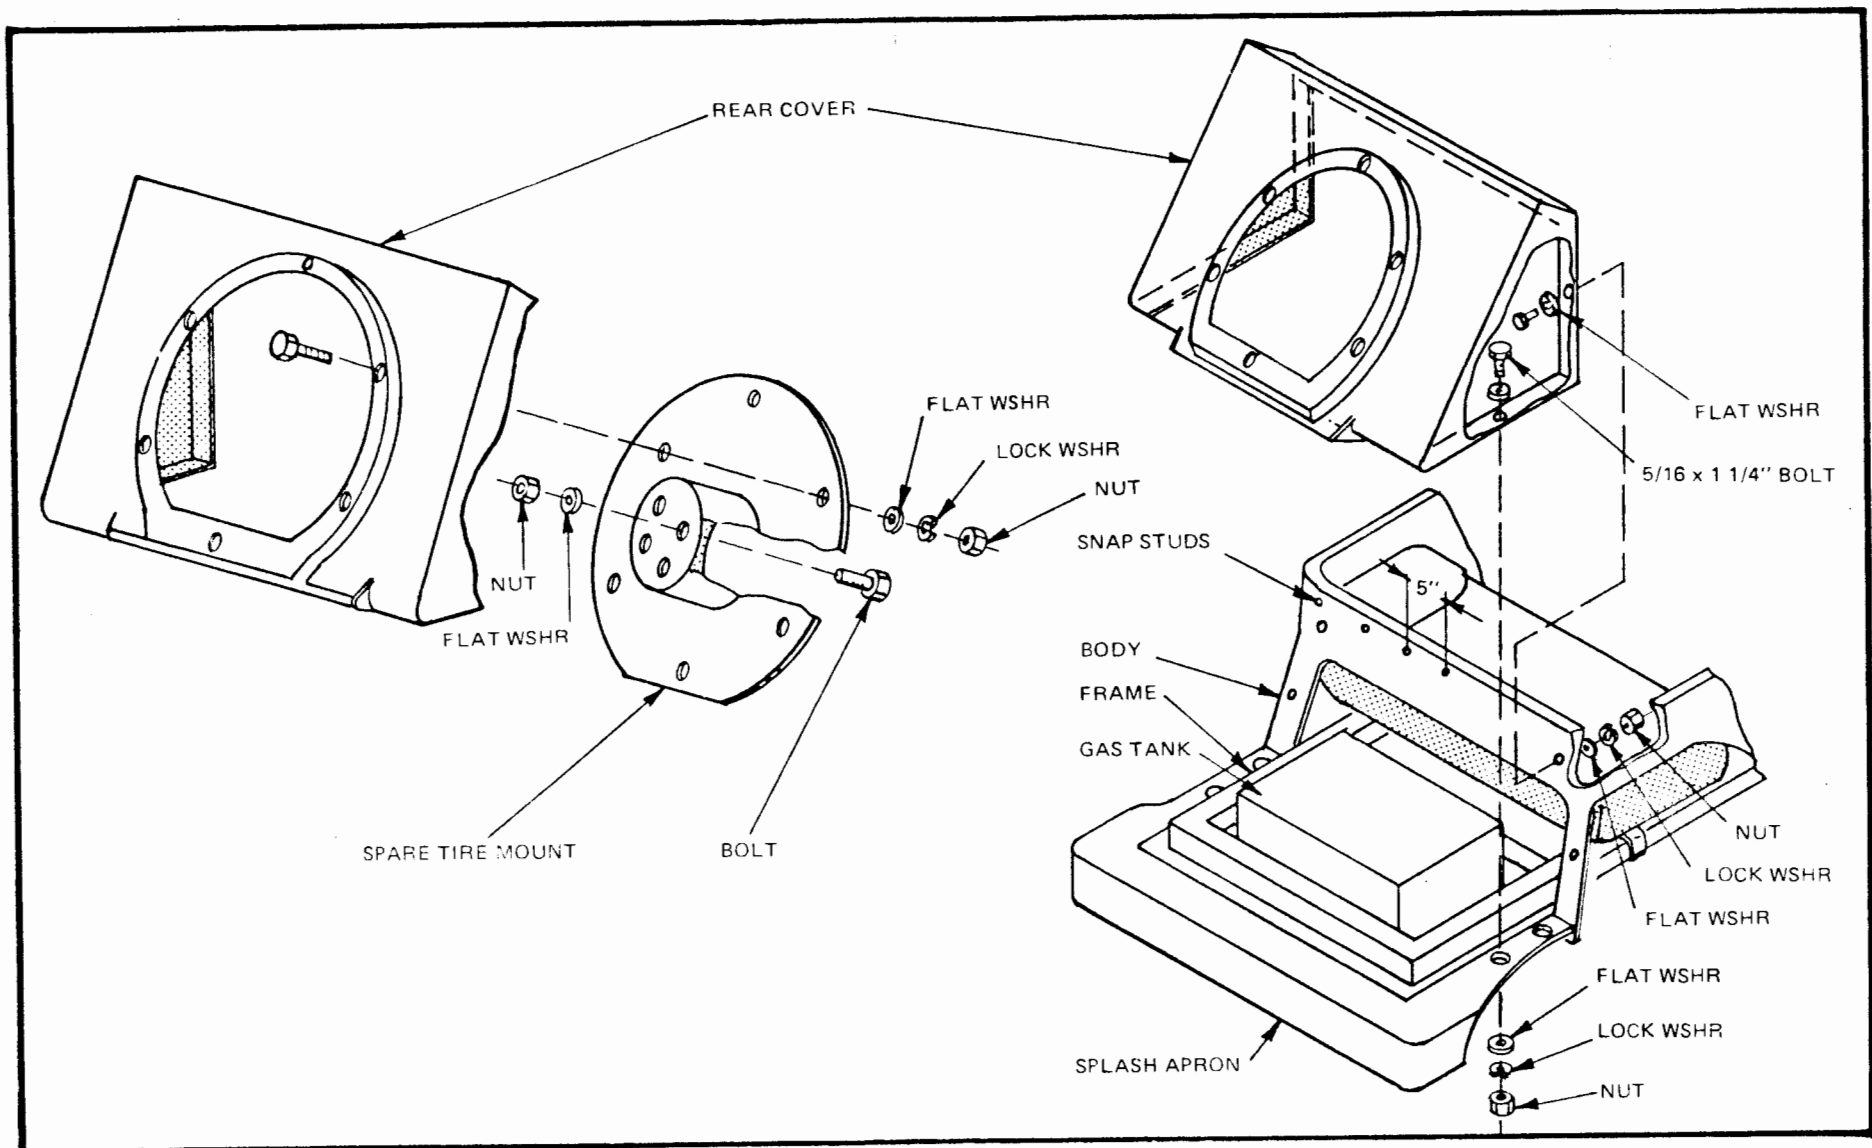

Figure 53
- Working through wheel wells, and from under splash apron, bolt cover to car through previously drilled holes using 5/16 x 1 1/4" bolts with 2 flat washers, lock washer and nut. (Figure 53)